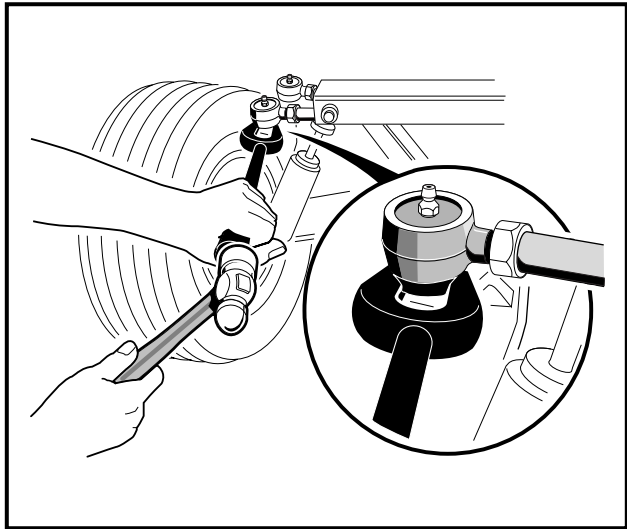

Figure 7-8 Ball Joint Tool
3. Using a ball joint removal tool, remove the ball joint (23) (**Figure 7-12, Page 7-11**) from the spindle assembly. **See Figure 7-8, Page 7-8.**
1. Remove ball joint and inspect it for excessive wear (**Figure 7-8, Page 7-8**).